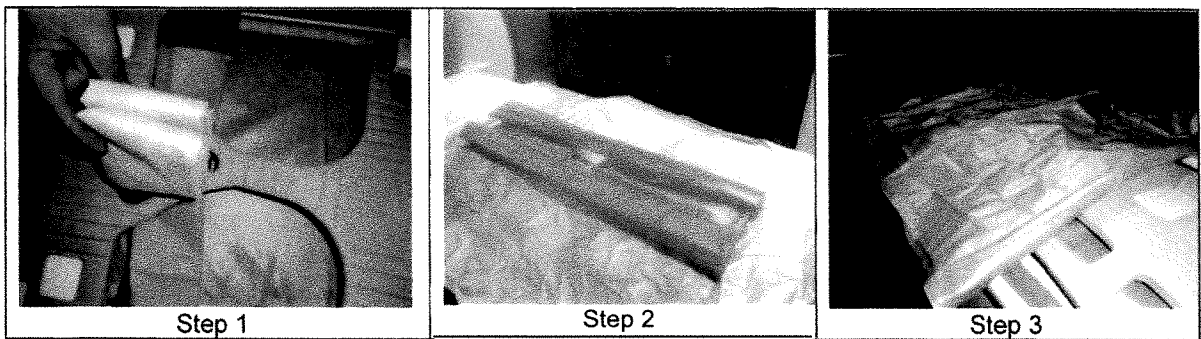

Figure 8: Surgical liner setup
- 2) Remove a new liner from packaging and place the liner, still folded, on the table with the shiny side down. Pull the cotton side of the liner through the probe opening in the center of the coil (Figure 8, Step 1), leaving the shiny side of the coil to remain beneath the coil. Unfold the liner (Figure 8, Step 2), making sure to run parallel to coil length. Reach beneath the coil and unfold that liner side as well (Figure 8, Step 3).